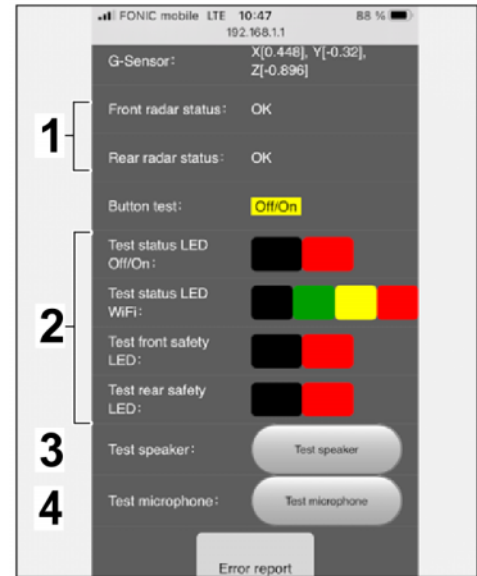

Figure 36
- 6.3 Display of radar status, possible tests for LED lights, loudspeaker and microphone (⇒ Figure 36)